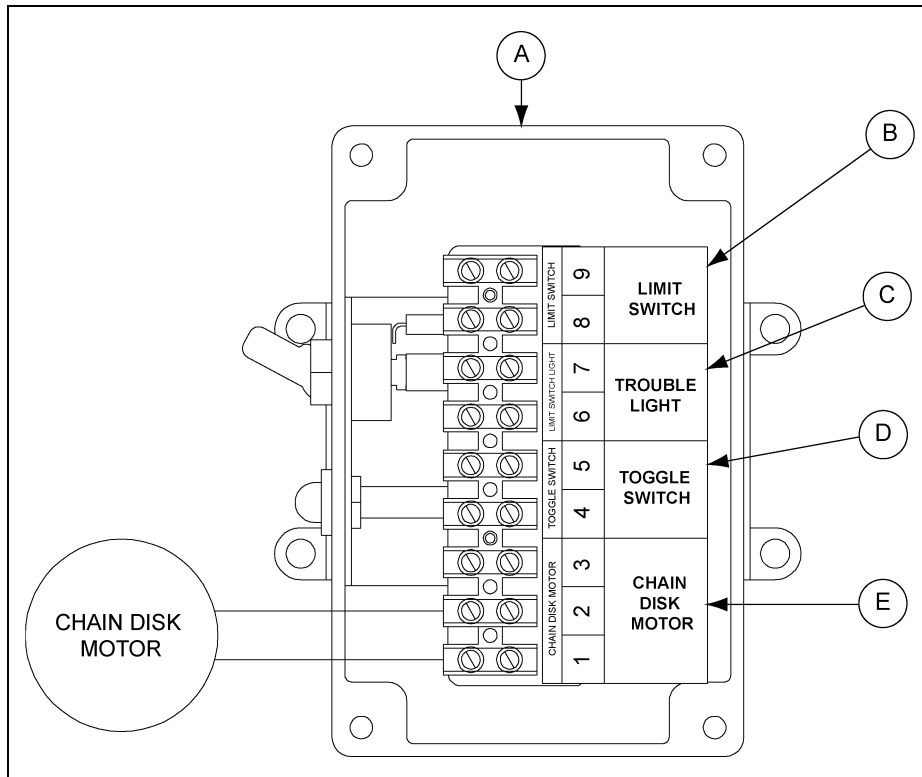

Figure 10A Chain Disk Junction Box
3. Use proper size wire according to the national electrical codes to wire all systems. (See Figure 10A.)